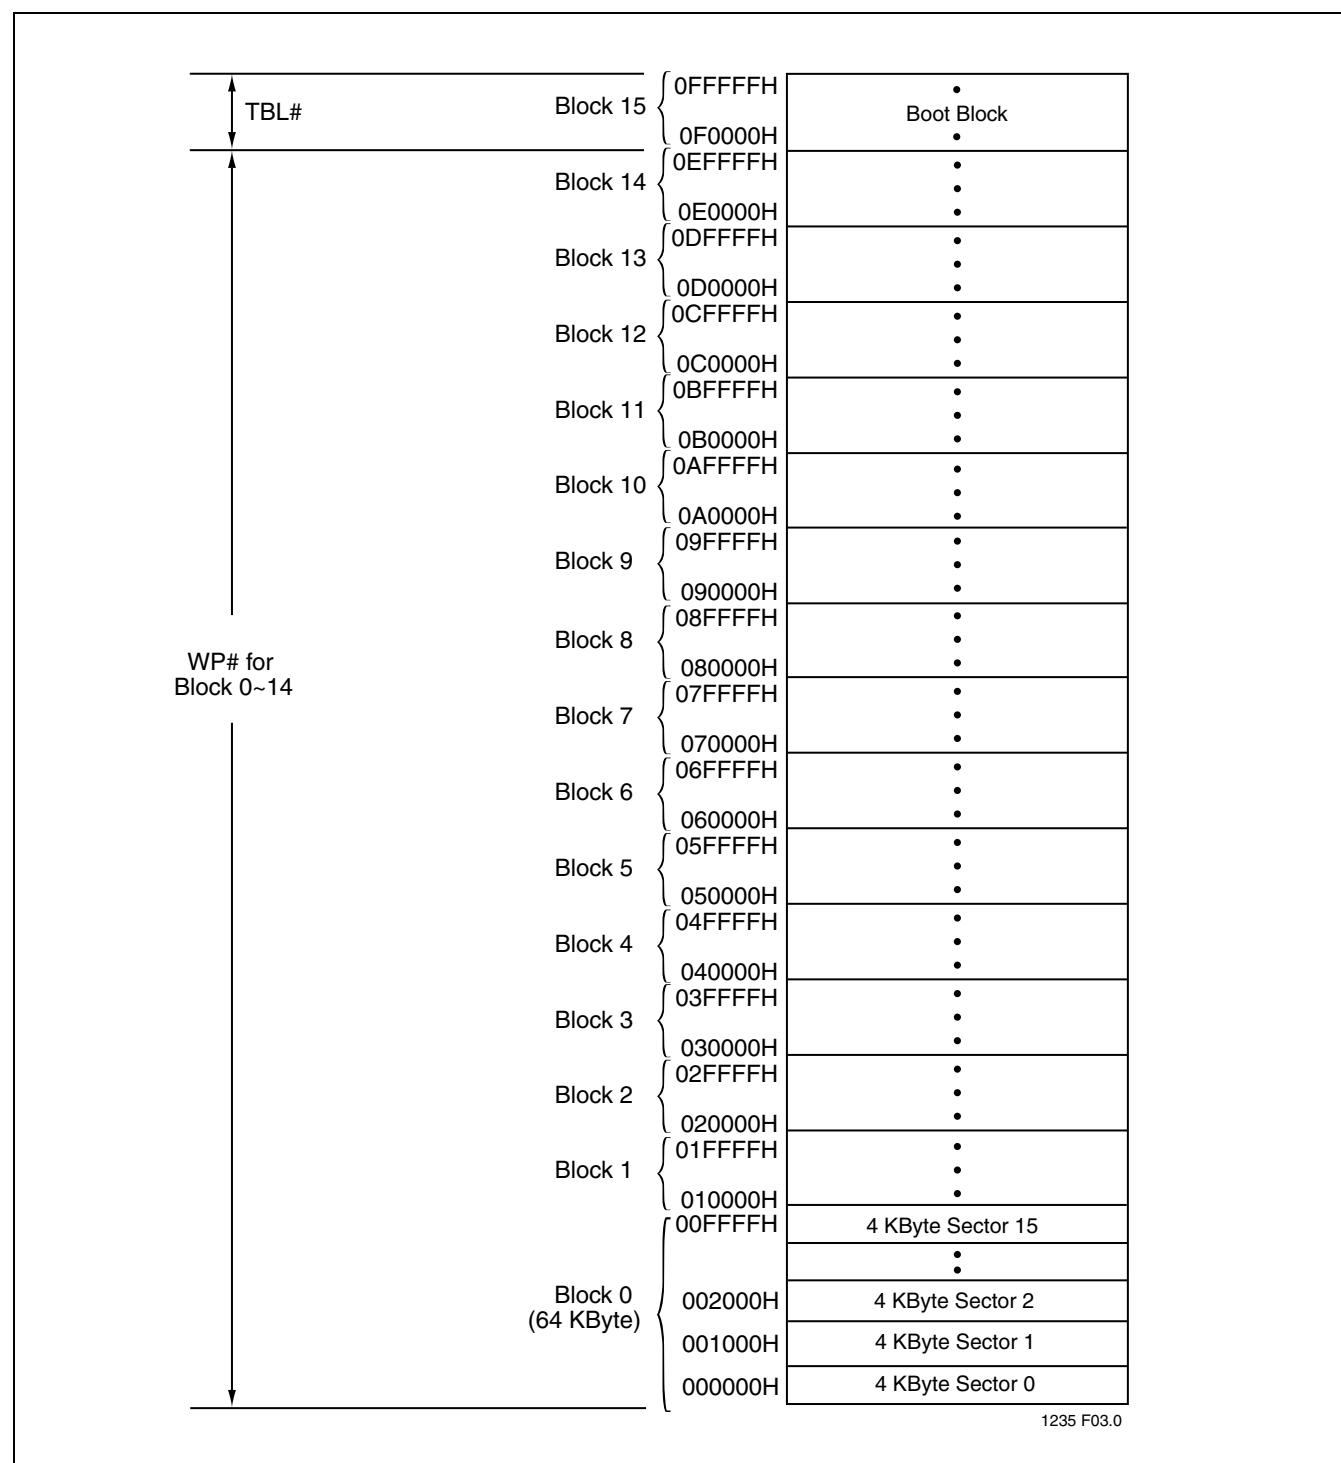

FIGURE 4: Device Memory Map
The SST49LF080A flash memory devices can operate in two distinct interface modes: the LPC mode and the Parallel Programming (PP) mode. The mode pin is used to set the interface mode selection. If the mode pin is set to logic High, the device is in PP mode. If the mode pin is set Low, the device is in the LPC mode. The mode selection pin must be configured prior to device operation. The mode pin is internally pulled down if the pin is left unconnected. In LPC mode, the device is configured to its host using standard LPC interface protocol. Communication between Host and the SST49LF080A occurs via the 4-bit I/O communication signals, LAD [3:0] and LFRAME#. In PP mode, the device is programmed via an 11-bit address and an 8-bit data I/O parallel signals. The address inputs are multiplexed in row and column selected by control signal R/C# pin. The row addresses are mapped to the lower internal addresses (A_{10-0}), and the column addresses are mapped to the higher internal addresses (A_{MS-11}). See Figure 4, the Device Memory Map, for address assignments.